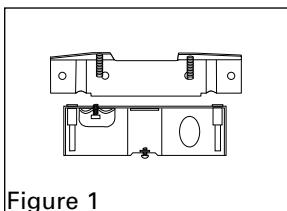
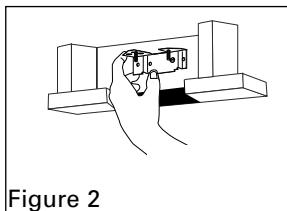

Figure 1
Figure 2
1. Separate the sidemount bracket from box by removing the two nylon insert locknuts inside the box (Figure 1). Insert sidemount bracket into 4" ceiling hole, position according to sheetrock thickness (Figure 2).